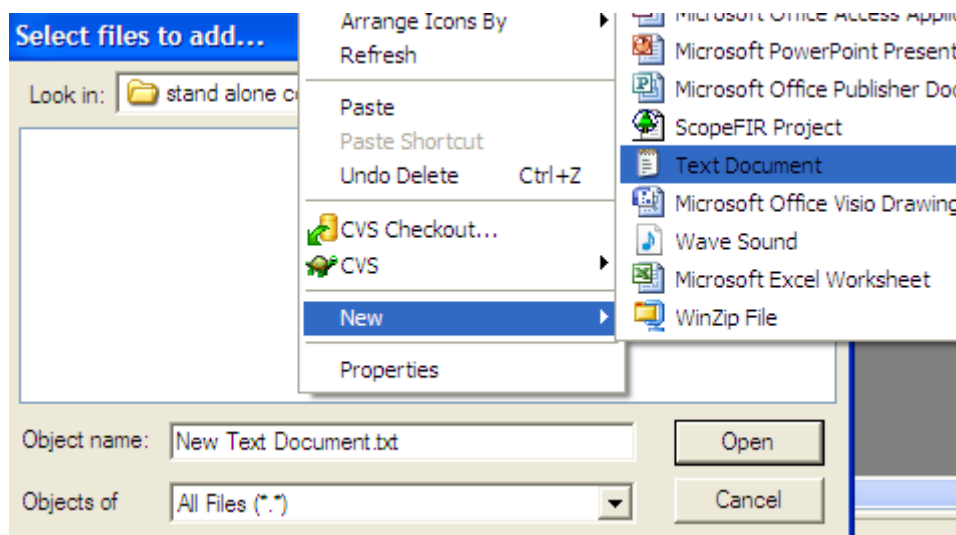

Figure 8.
8. Right click on the empty space, choose New — Text Document (see Figure 8).